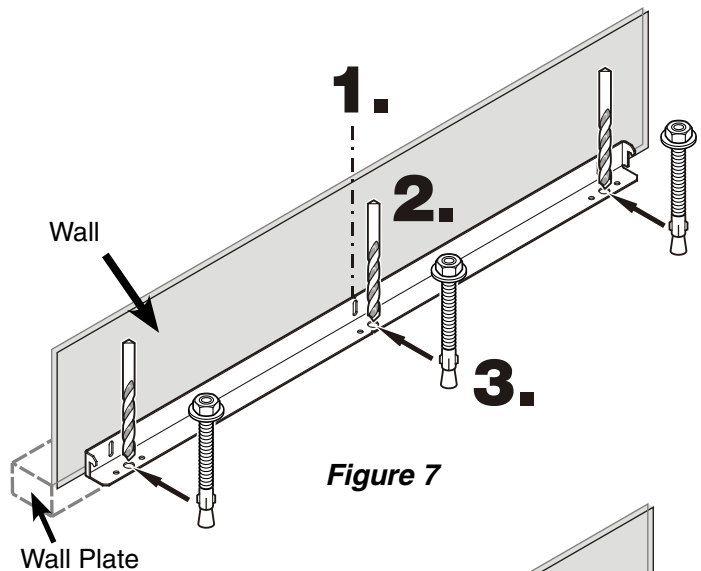

Figure 7
## Mounting the anti tipping device on concrete floors - Figure 7 - 8
2. Drill a 3/8" diameter hole in any position as shown in **Figure 7** using a carbide drill bit.